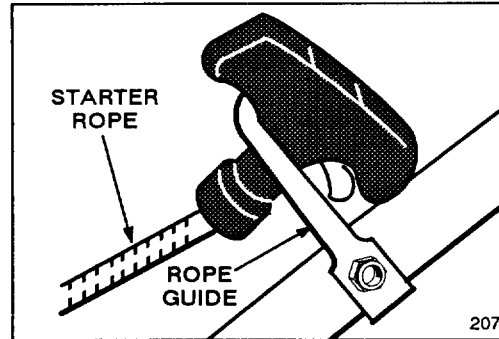

Figure 3
3. Pull starter rope through rope guide on handle (Fig. 3). By squeezing control bar to handle, blade brake will release and allow rope to be pulled up easily to loop.